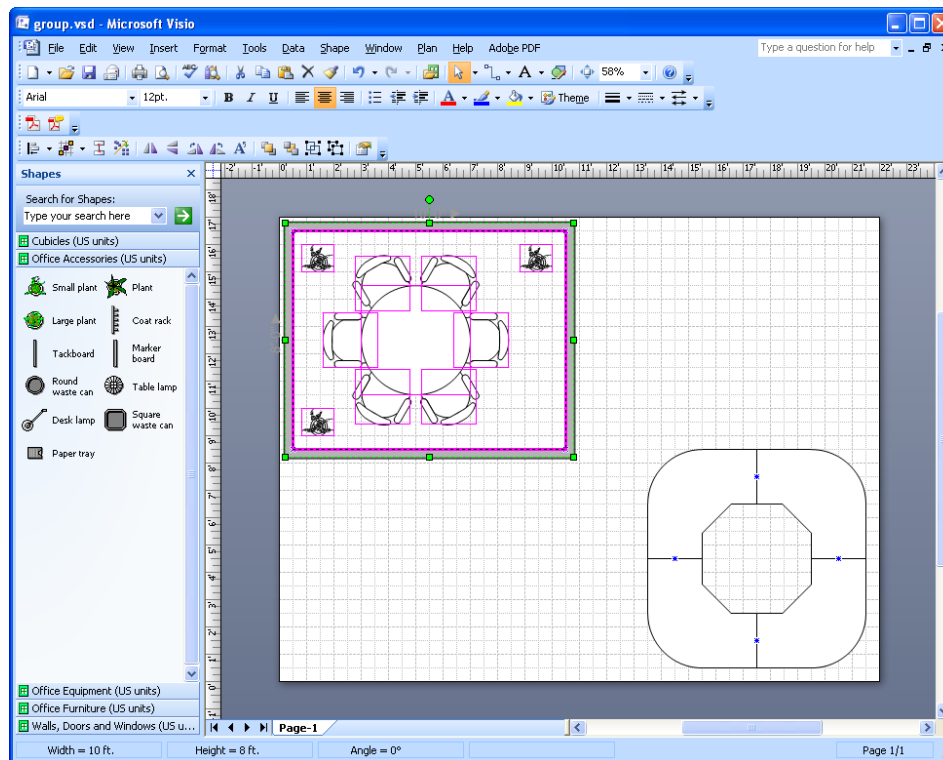

Figure 18 – Grouping Shapes
3. Hold down the [Shift] key and click the **Room** shape at the top left of the drawing page, the **Mutli-chair round table**, each **Desk chair**, and the three **Small plant** shapes (see Figure 18).